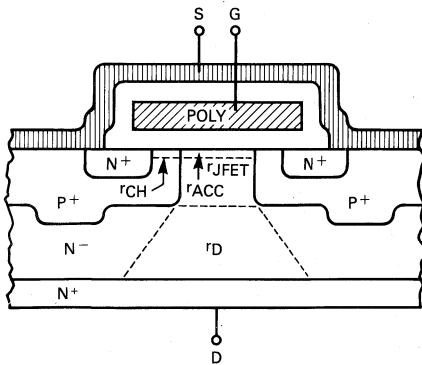

FIGURE 1-7 — TMOS DEVICE ON-RESISTANCE
When a gate voltage of appropriate polarity and magnitude is applied to the gate terminal, the polysilicon gate induces an inversion layer at the surface of the diffused channel region represented by  $r_{CH}$  in Figure 1-7 (page A-8). This inversion layer or channel connects the source to the lightly doped region of the drain and current begins to flow. For small values of applied drain-to-source voltage,  $V_{DS}$ , drain current increases linearly and can be represented by Equation (1).
Threshold voltage is the gate-to-source voltage required to achieve surface inversion of the diffused channel region, ( $r_{CH}$  in Figure 1-7 page A-8) and as a result, conduction in the channel.
On-resistance is defined as the total resistance encountered by the drain current as it flows from the drain terminal to the source terminal. Referring to Figure 1-7,  $r_{DS(on)}$  is composed primarily of four resistive components associated with: